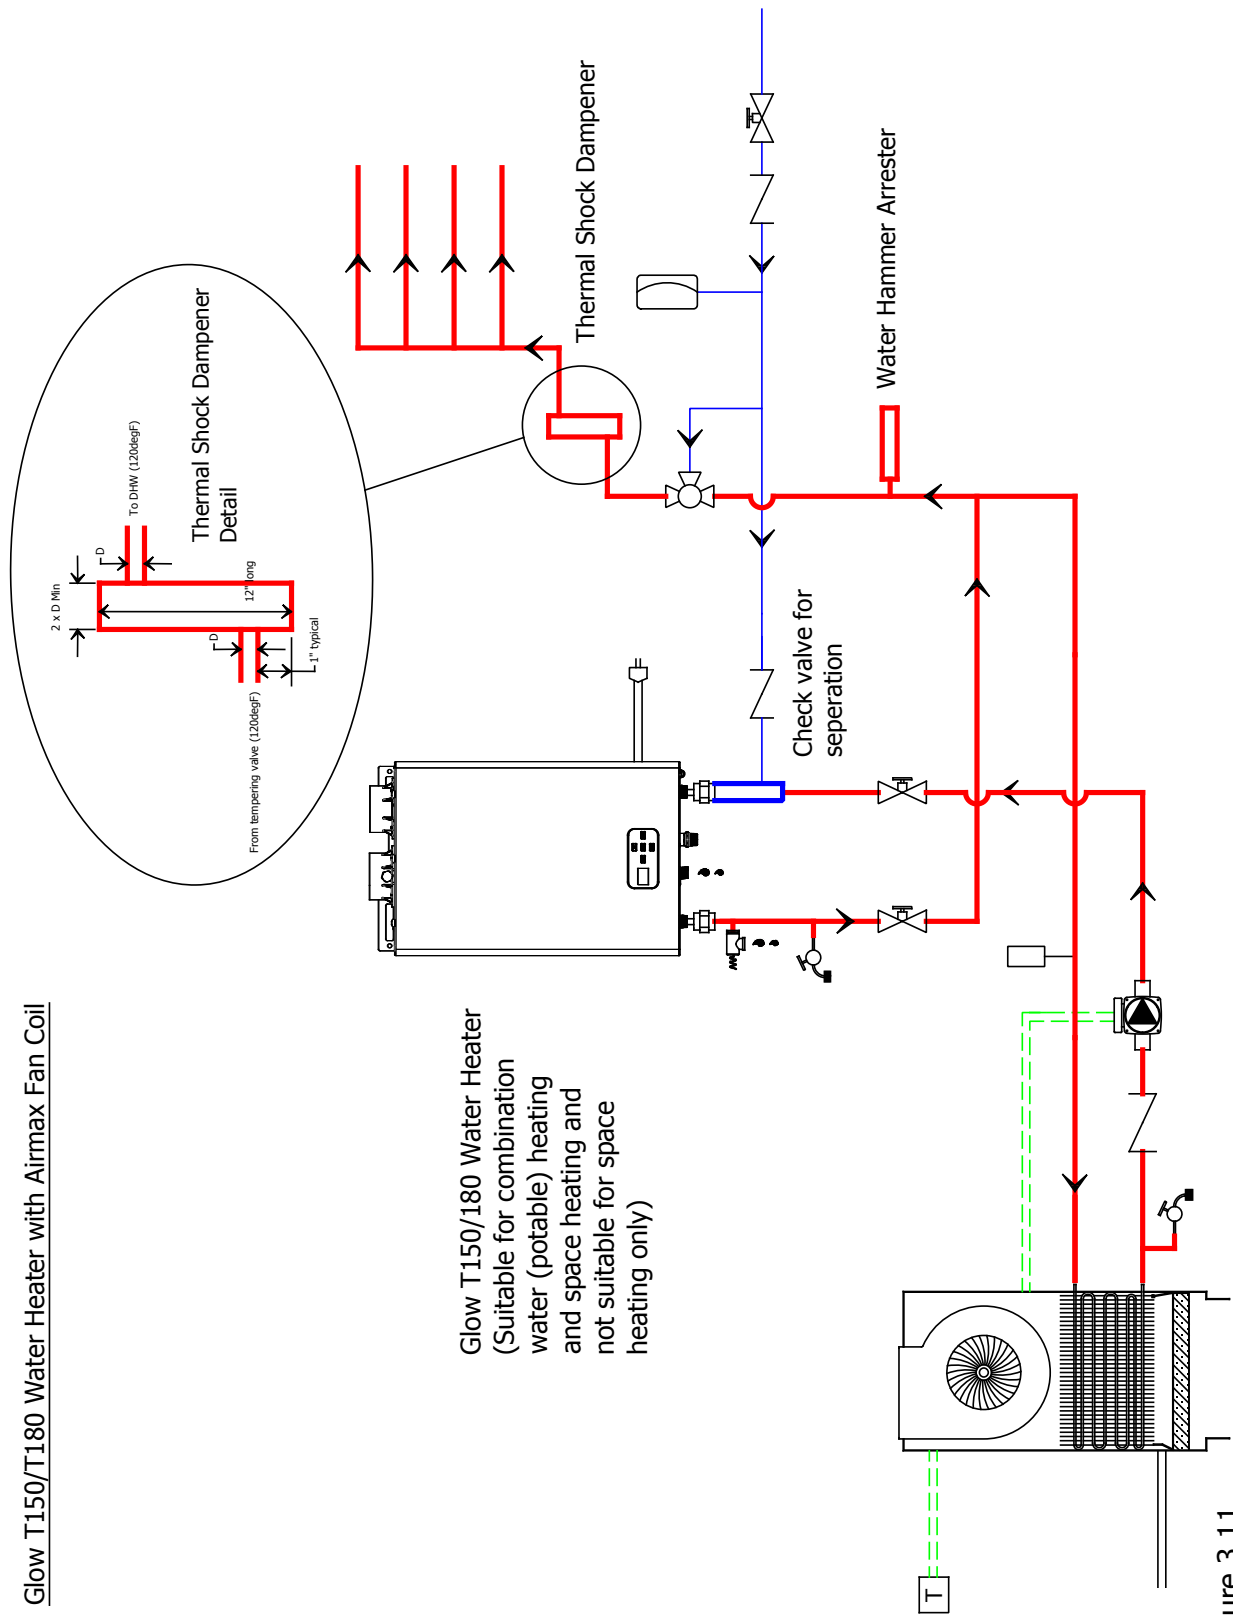

Figure 3.11
- Δ Further protection can be provided with the use of a commercially available Water Hammer Arrester or field fabricated Thermal Shock Dampener as shown in Figure 3.11.